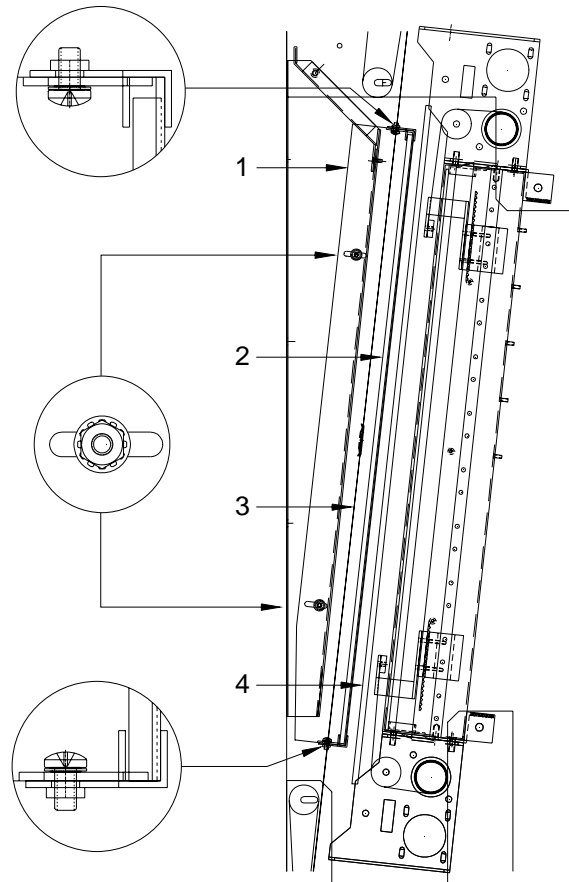

Figure 5-5-2. Shutter Shield, Details
- Loosen two screws and two nuts as shown in the details of Figure 5-5-2.
- See figure 5-5-2 and move Shutter Shield Bracket (1) toward the front and Shutter Shield (2) with its support toward the back of the Rolloscope.
- Insert the Shutter Shield (2) into its supporting channels.
- Push the Shutter Shield and its support toward the front of the Rolloscope and tighten the two screws shown in Figure 5-5-2.
- Move the Shutter Shield Bracket (1) toward the back of the Rolloscope until the Shutter Shield (2) is approximately centered between the Transport Band (3) and the front of the Horizontal Shutter (4).
- Tighten the two nuts shown in Figure 5-5-2.